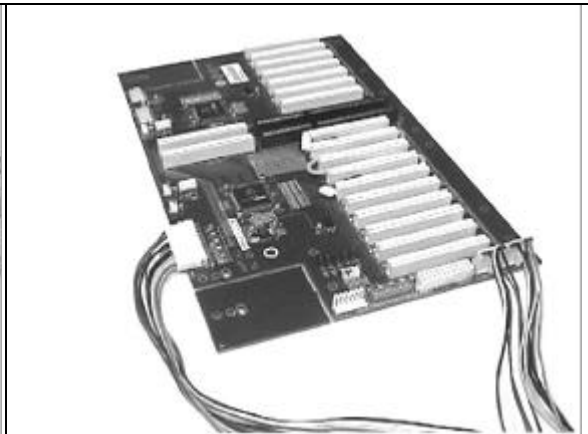

Fig. 2
1. If you use AT power supply, please apply the P8/P9 connector over P8/P9 or P8/P9-1. If you have two sets of P8/P9 connectors, you may apply both of them over these two AT power connector (**Fig. 2**).